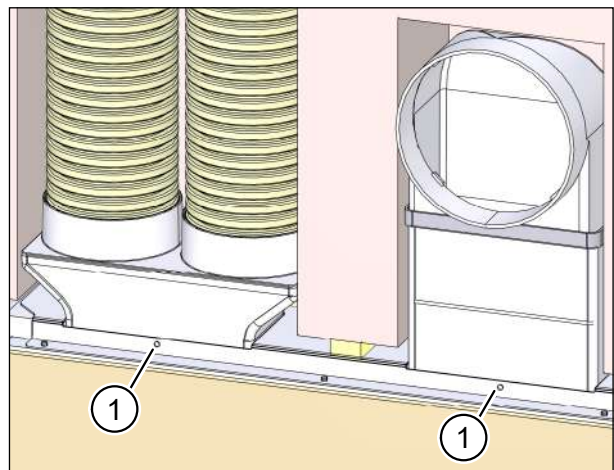

Fig. 57: Fixing the connections for flat ductwork / flexible pipe to the wall box
There are two holes (item 1 in Fig. 57) in the plastering trim for fixing the flat ductwork or flexible pipe connections to the wall box with blind rivets. These holes will also need to be drilled in the flat ductwork or flexible pipe connections.
- ▶ Use the 3 mm drill bit to drill through the holes in the plastering trim (item 1 in Fig. 57) and into the flat ductwork or flexible pipe connections.